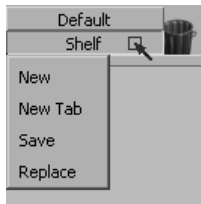
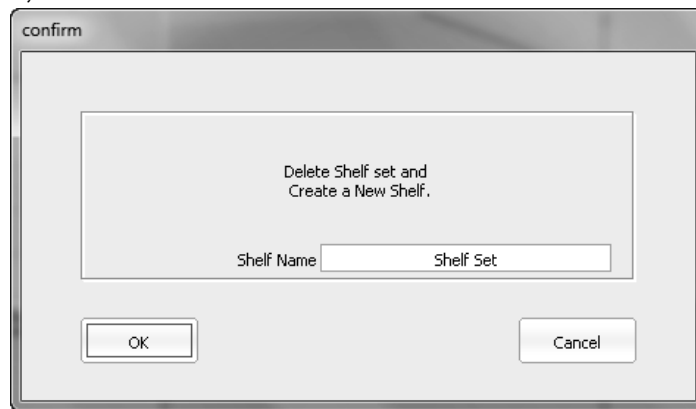

Figure 1-34 The Shelf flyout
Figure 1-35 The **confirm** message box
3. Create a new shelf in the **Control Panel**. To do so, press and hold the left mouse button on the **Shelf** button in the **Control Panel**; the **Shelf** flyout will be displayed, as shown in Figure 1-34. Choose the **New** option from this flyout; the **confirm** message box will be displayed, as shown in Figure 1-35. In the **confirm** message box, enter the new name (**Surface**) in the **Shelf Name** edit box and choose the **OK** button; a new shelf with the entered name will be displayed.